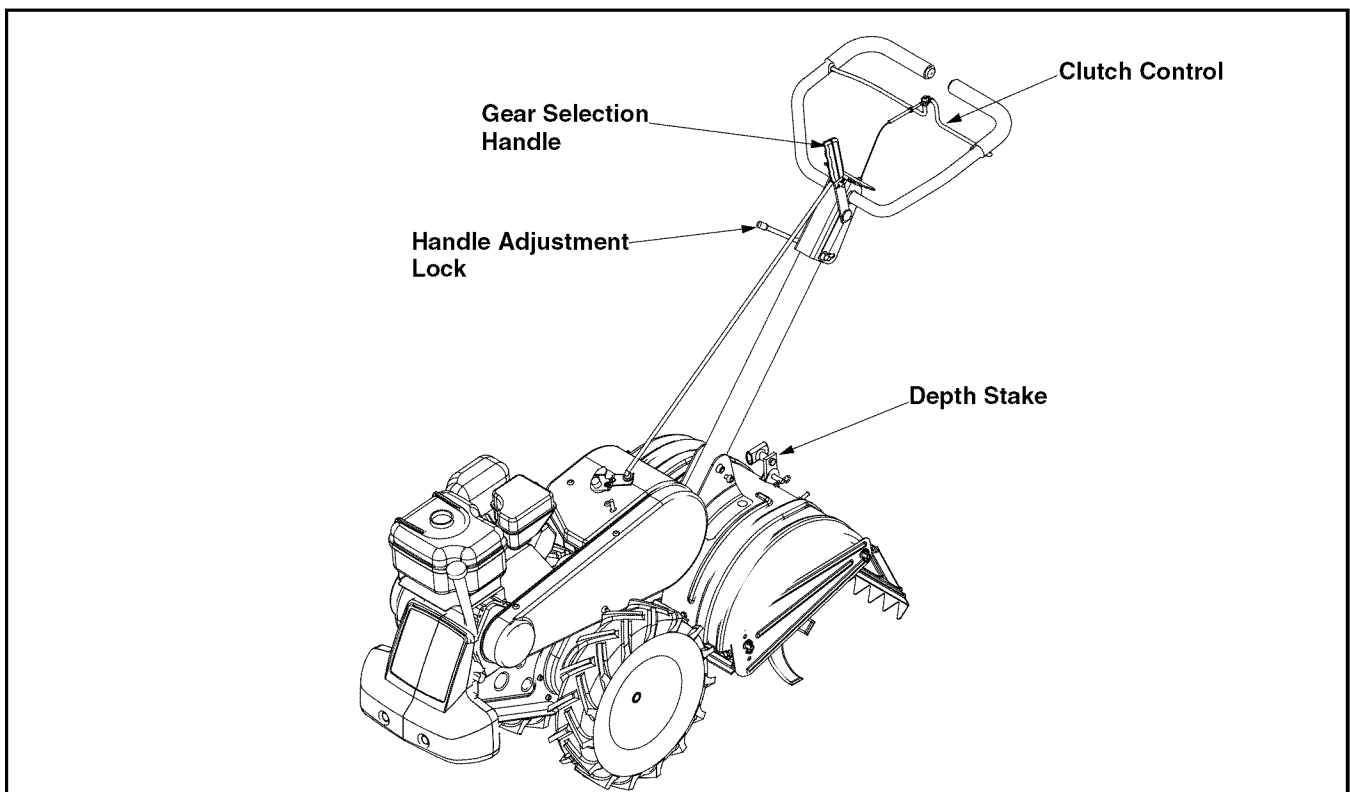

Figure 6
- Insert the longer end of the control rod through the hole in the gear selector handle and secure with hairpin clip. See Figure 6.
The gear selection handle is located in the center of the handle on the tiller. It is used to select NEUTRAL, REVERSE, or one of the FORWARD mode. Pull or push the handle so that the indicator on top of shift cover points to the operating mode desired. See Figure 6.